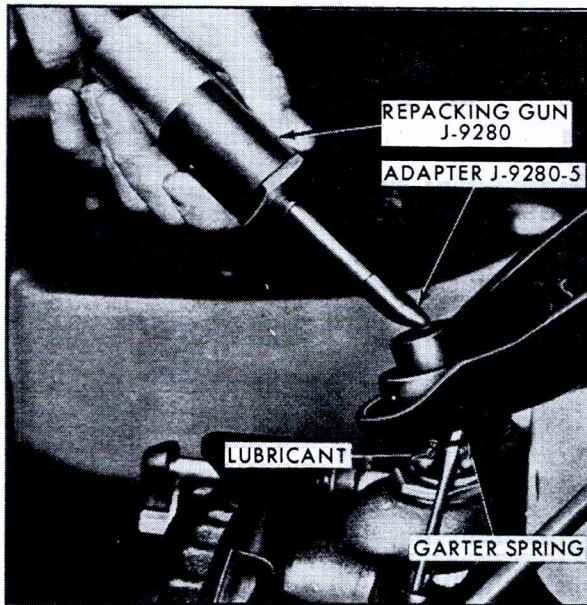

Fig. 3-11 Repacking Front Upper Spherical Joint Seal
13. Using Repacking Gun, J-9280, and Adapter J-9280-5, apply lubricant until approximately two teaspoons of lubricant escapes under the seal at the screwdriver, Fig. 3-11. Any water trapped in the joint should be forced out by the fresh lubricant.